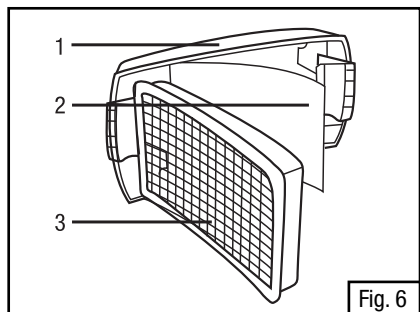

Fig. 6
3. Place the HE filter and the prefilter or spark arrestor (if either is being used) into the filter cover according to Fig 6. Ensure the HE filter label can be seen in the filter cover view window. **Note:** The TR-3600 cannot be used in combination with the TR-362 or TR-362-SG. Refer to the TR-300 NIOSH approval label to confirm which product can be used with your system configuration.